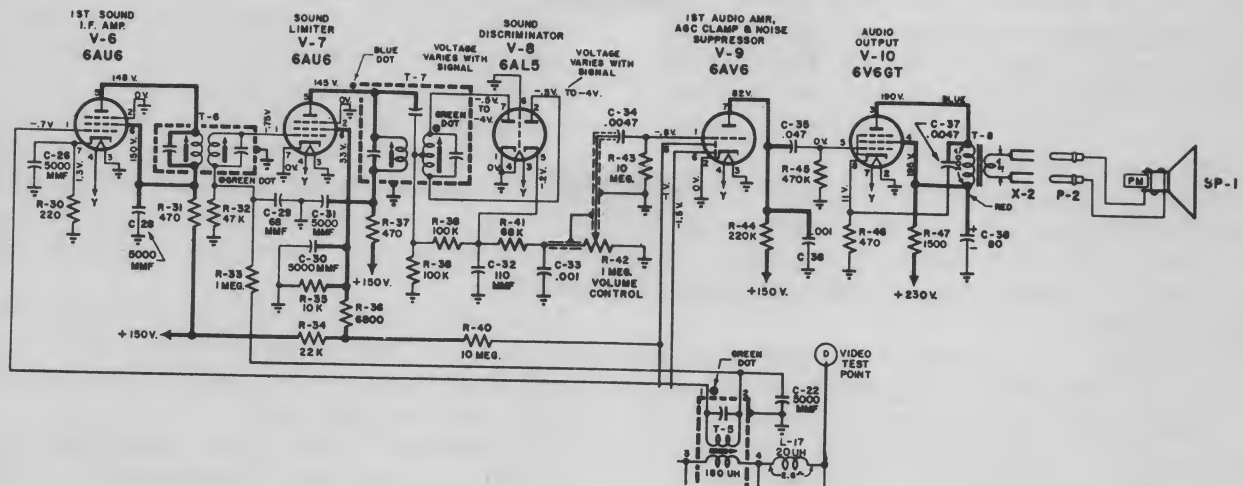

Fig. 7-2. Sound section: Emerson 728D.
b. *Two I-F Amplifiers and Discriminator.* Figure 7-2 is the schematic diagram of the sound section found in Emerson Model 728D. Two i-f amplifiers are also used here, followed by a conventional Foster-Seely discriminator.
*a. Circuit Description.* Circuit arrangement of the audio amplifiers is almost identical in all the receivers compared (see Fig. 7-2 for the audio stages in the Emerson 728D).
(1) *No sound.* This may be due to defective tubes, open coupling capacitors, open output transformer, shorted screen bypass capacitor, open voice coil in speaker, absence of B+ due to open plate-load resistors, shorted plate bypass capacitor (C36 in Fig. 7-2).
(5) If a Foster-Seeley discriminator is used, hot lead of zero center VTVM is placed across full load (pin No. 5 in Fig. 7-2) and negative lead to common ground.
(6) Vary signal generator 100kc on either side of 4.5-mc. VTVM should deflect equal amounts on either side of zero. If it does not, the alignment of these stages must be investigated.
(7) Remove short from grid of pix i-f amplifier.
(8) Remove the two series resistors which were placed across RC network in ratio detector.